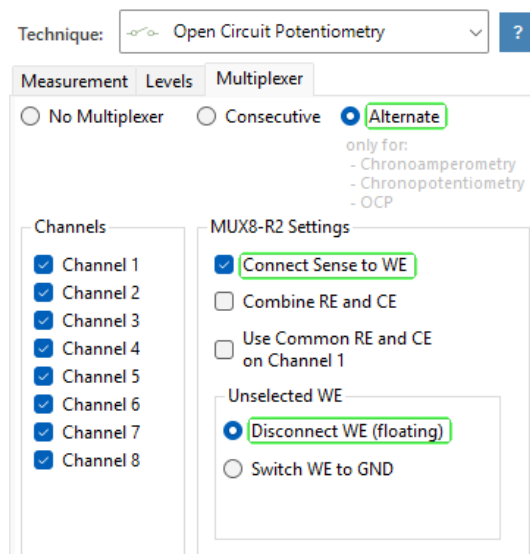

Figure 5 Alternate Mode settings
4. Click on *Change default configuration* and make sure the boxes, *Combine RE and CE*, *Use common RE and CE on channel1* are **not** checked. The option *Disconnect WE (floating) for unselected WEs* should be chosen. If your system features Sense leads, check the option *Connect Sense to WE* (see Figure 5).